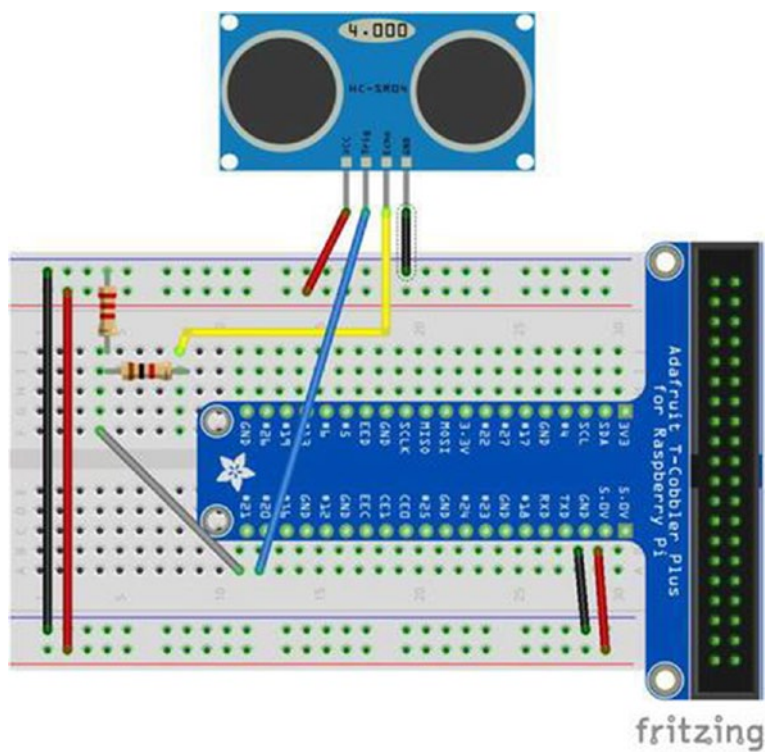

Figure 4-6. *Sonic rangefinder example circuit layout*
1. Attach the T-Cobbler, as shown in Figure 4-6. One row of pins should be on either side of the split in the board. The placement is up to you; however, I generally attach it so that the ribbon cable header is off the board. This allows maximum access to the breadboard.